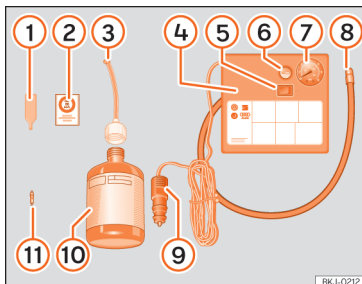

Fig. 32 Standard representation: anti-puncture kit contents.
The anti-puncture kit is located underneath the floor covering in the luggage compartment. It includes the following components » **Fig. 32**:
- Unscrew the tyre valve cap and insert. Use the » **Fig. 32** ① tool to remove the insert. Place it on a clean surface.
- Shake the tyre sealant bottle vigorously » **Fig. 32** ⑩.
- Screw the inflator tube » **Fig. 32** ③ into the sealant bottle. The bottle's seal will break automatically.
- Remove the lid from the filling tube » **Fig. 32** ③ and screw the open end of the tube into the tyre valve.
- Place the insert back into the tyre valve using the tool » **Fig. 32** ①.
- Screw the compressor tyre inflator tube » **Fig. 32** ⑧ into the tyre valve.
- Check that the air bleed screw is closed » **Fig. 32** ⑥.
- Insert the connector » **Fig. 32** ⑨ into the vehicle's 12-volt socket » **page 155**.
- Turn the air compressor on with the ON/OFF switch » **Fig. 32** ⑤.
- Attach the sticker »» Fig. 32 ② to the instrument cluster, within the driver's visual field.
Screw the inflator tube »» Fig. 32 ⑤ again and check the pressure on the gauge ⑥.